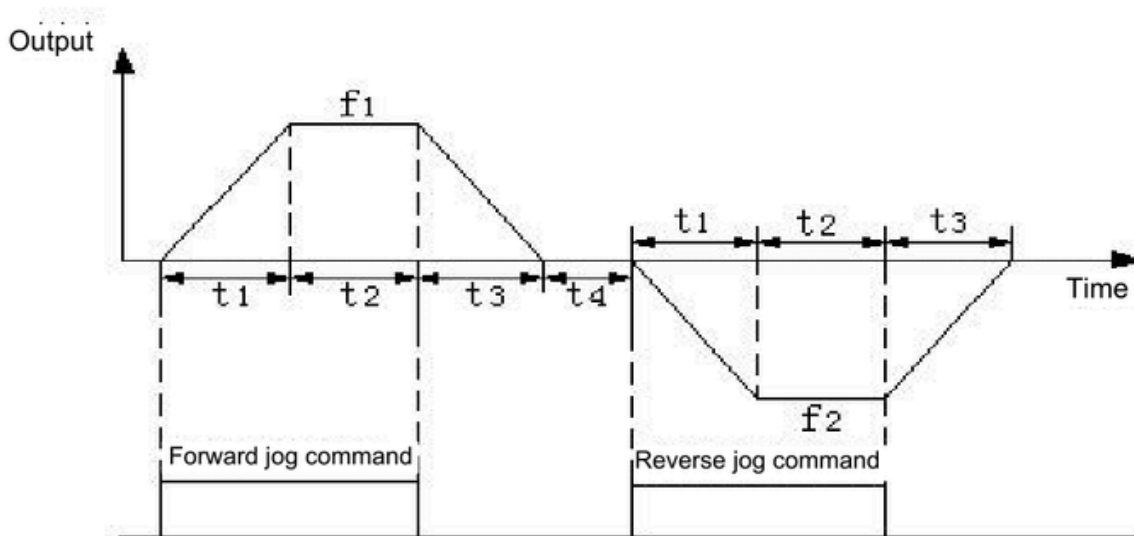

Figure 01-5 JOG Operation Diagram
01.20 ~ 01.24 defines relevant parameters during jog operation. As shown in fig. 01-5, t1 and t3 are the actual jog acceleration and deceleration time; t2 is JOG time; t4 is jog interval time (01.24); f1 is the running frequency of forward jog (01.20); f2 is the reverse jog operation frequency (01.21). The actual jog acceleration time t1 is determined according to the following formula: